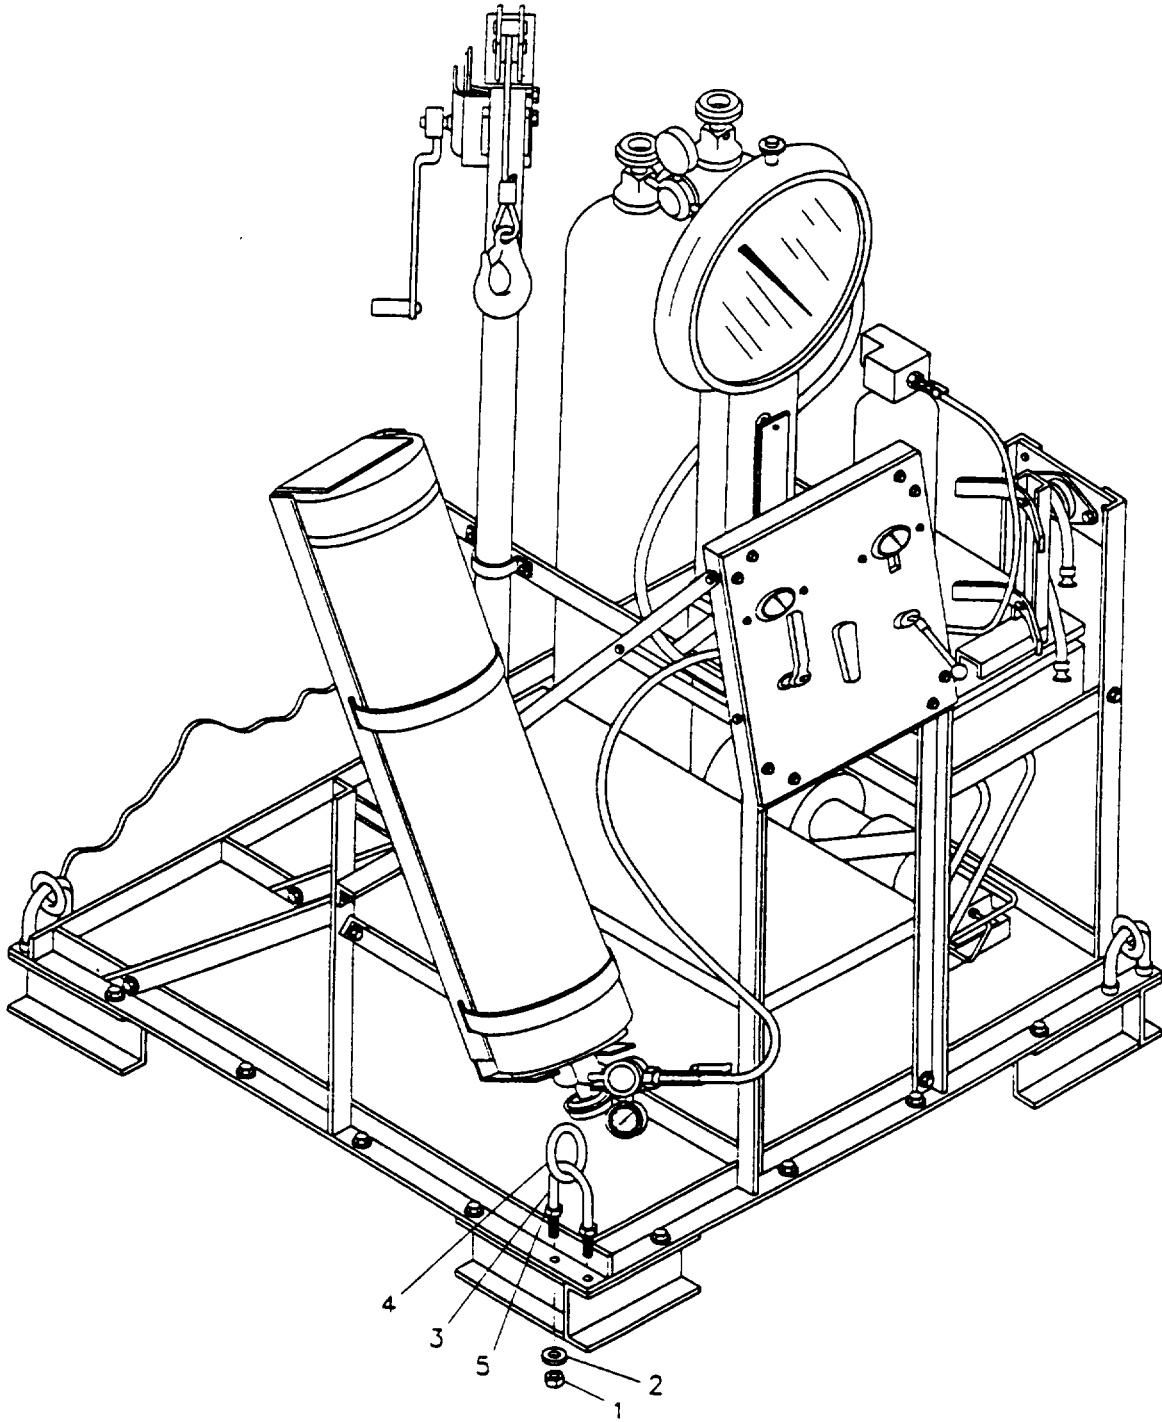

Figure 4-18. U-bolt Replacement
**4-25 U-BOLT REPLACEMENT. (Refer to Figure 4-18)**
**4-26 SLING CONNECTING RING REPLACEMENT. (Refer to Figure 4-18)**